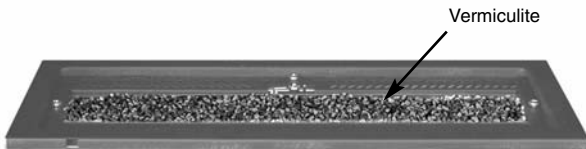

Fig. 14
1. Fill the burner with the vermiculite supplied (Fig. 14).